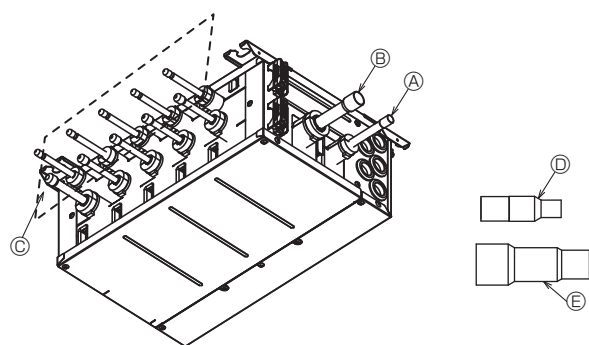
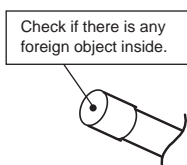

Fig. 7-3
Fig. 7-5
- (1) Remove the rubber caps from the outdoor unit side connection pipe (A) and (B).
- (2) After brazing (C) to the liquid pipe side and (D) to the gas pipe of the refrigerant pipe connected to the outdoor unit side, braze the branch box to connect. (Fig. 7-3, 7-4)
- (3) When brazing in succession, conduct the next brazing once the welded section has cooled down to room temperature. Failure to do so will cause the insulation material or the unit to melt causing condensation.
Remove the copper cap of (C), and braze the refrigerant piping connected to the indoor unit. (Fig. 7-3)
- (4) When the indoor unit is not connected, do not remove the copper cap of (C), or refrigerant leaks.
- (5) After cutting piping or unsoldering brazed piping or copper caps, ensure to clean away any foreign object (i.e., brazing material, cutting chips) so as to prevent entry of any foreign object into the piping. Failure to do so may cause malfunction of the outdoor compressor, and the like. (Fig. 7-5)
- (A) To outdoor unit connection pipe. (Liquid)